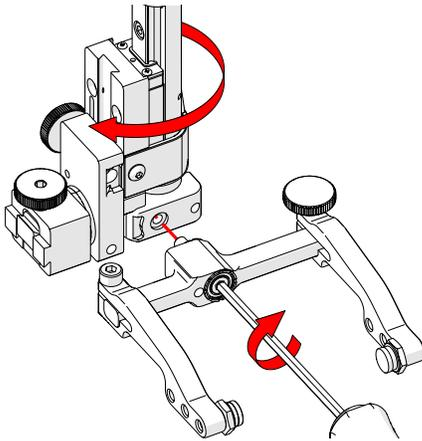

Fig. 94 - Screw yoke to opposite side
6. Mount the yoke to the opposite side of the base using the supplied 3 mm hex driver (Fig. 94).